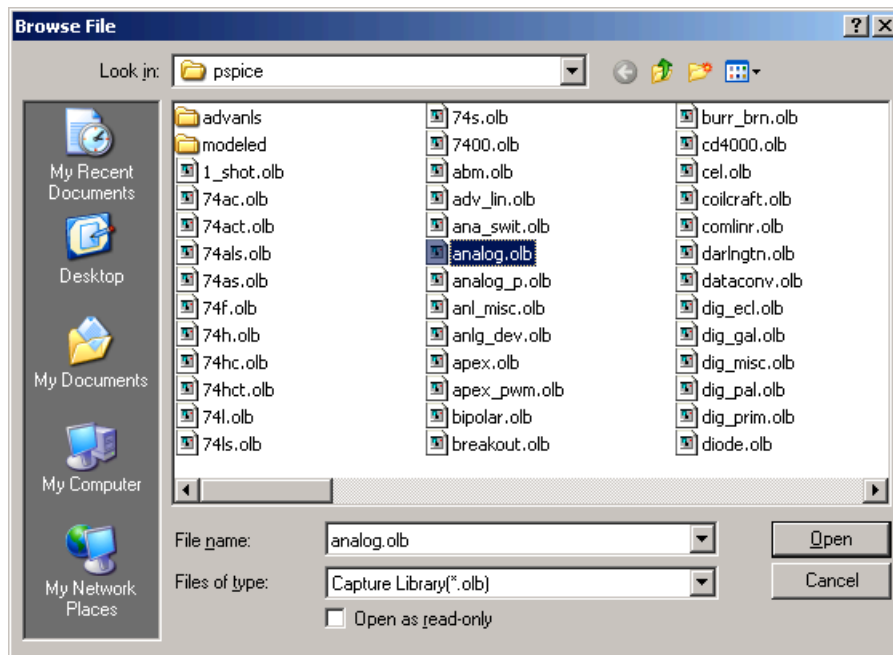

Figure 9. Dialogue box for adding a library to Capture.
- Click Add Library... (the dotted box with a star in the docking form of the dialogue), which brings up the dialogue box shown in figure 9 on the next page. Check that the libraries are in the pspice folder and navigate to it if necessary. Select analog.olb and click OK.